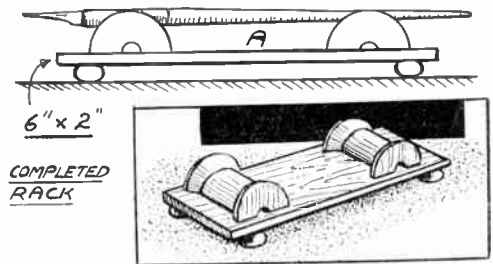

Fig. 1 A pen rack
First let us consider the simple pen rack shown in Fig. 1. To make this we require a base (A), 6ins. by 2ins., and a cotton reel with fairly deep lips (reels vary a lot in this respect). Held in some suitable way, the reel is halved, and the sections so formed glued to the base after a good contact has been made with glasspaper. The halves, as will be seen by the sketch, are placed $\frac{1}{4}$ in. from either